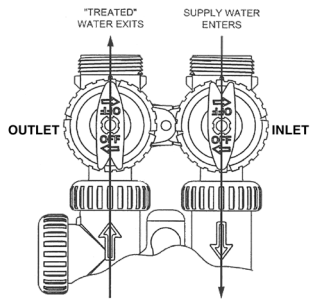

FIG. 2
- 2. Bypass Position**— The inlet and outlet handles point towards each other. This isolates the control valve from the water pressure contained in the plumbing system. Any water drawn from the building while the system is in this position will receive untreated water directly from the source. (See Fig. 2 below)
- 1. Flush System—** After installation is complete, rotate the bypass valve handles to the bypass position shown in **Fig. 2** on page 4. With water pressure turned on, open a cold water faucet and allow water to clear pipes of debris which may occur during installation. Close cold water faucet.
- 2. Depressurized System—** Turn off the incoming water source and open a tap inside that house that is using filtered water to release the pressure inside of the tank. Place the unit into bypass mode (See Fig. 2 on Page 4). Unscrew the top fill port or the valve head.